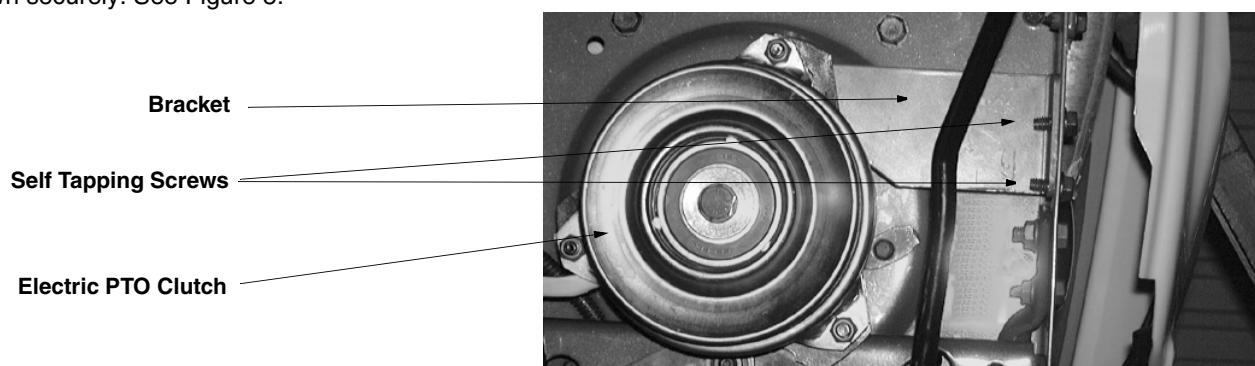

Figure 5
9. Secure the Bracket to the frame using both Self Tapping Screws from the outside. Use a 1/2" wrench to tighten them down securely. See Figure 5.